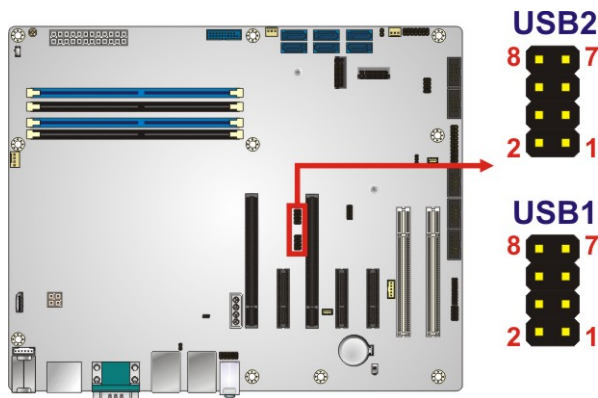

Figure 3-31: USB 2.0 Connector Pinout Locations
- CN Location:** See **Figure 3-31**